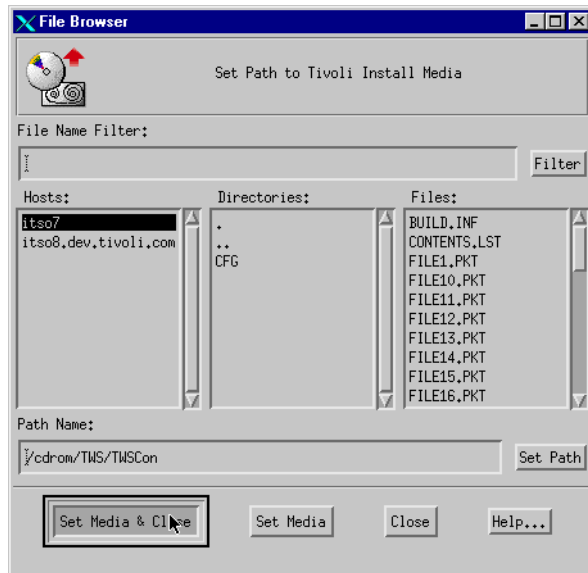

Figure 49. Media selection
19. Select media and change path to /cdrom/TWS/TWSSCon as shown in Figure 49 on page 66.